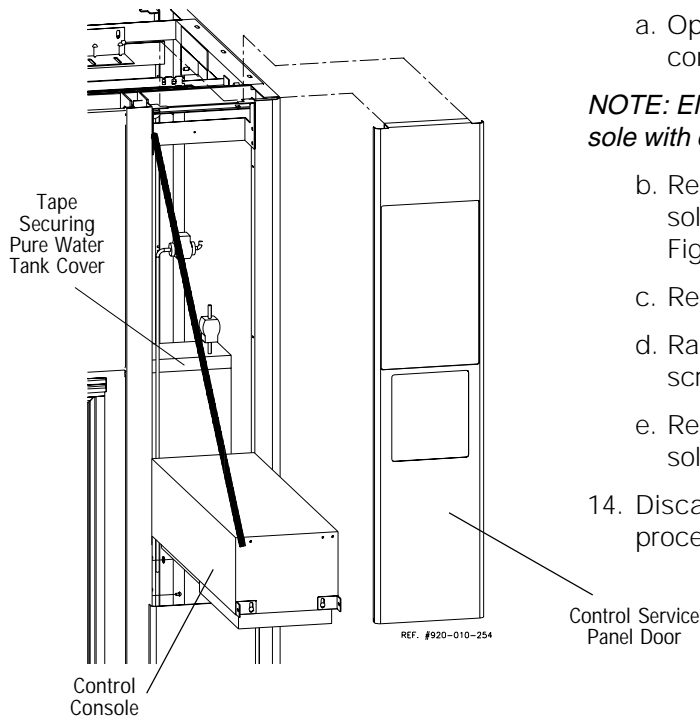

Figure 2-8. Lower Control Console
- Lift door using handle located at top of chamber door (see Figure 2-8).
- Remove two retaining screws securing top of control console to unit frame. Lower console to horizontal position (see Figure 2-8).
- Remove tape from pure water tank cover (see Figure 2-8).